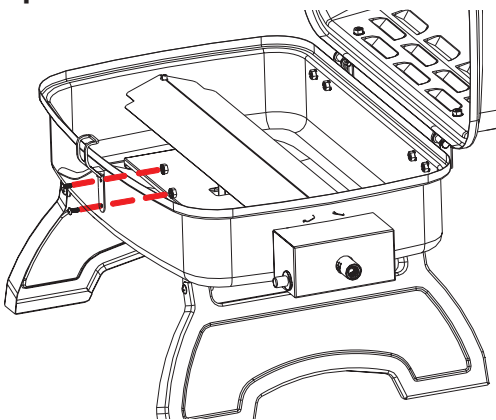

Fig. 7
Procedure: Attach the Latch to the firebox using (2) M4x10 bolts and (2) M4 nuts as shown in Fig. 7.